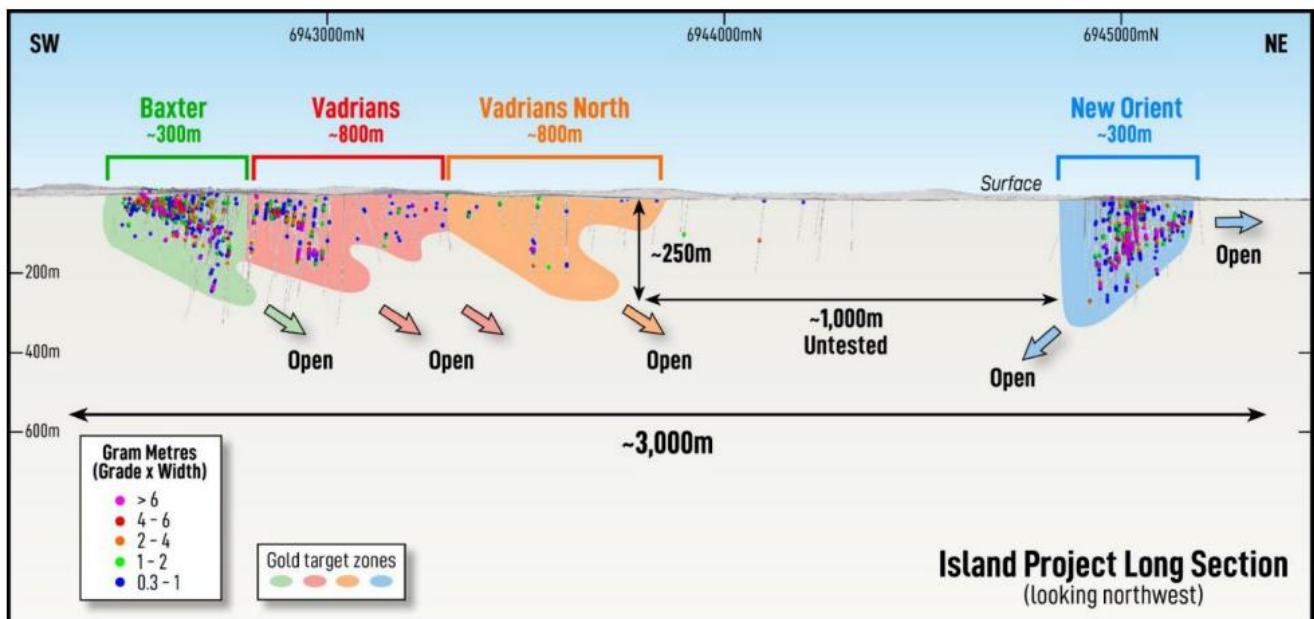

Figure 4. Long section highlighting the gold potential north along strike of Vadrians and circa 1,000m untested zone.
- **A concealed BIF unit** beneath shallow Lake Austin cover between New Orient and Vadrians, a compelling one-kilometre long corridor that remains completely undrilled (Figure 4).